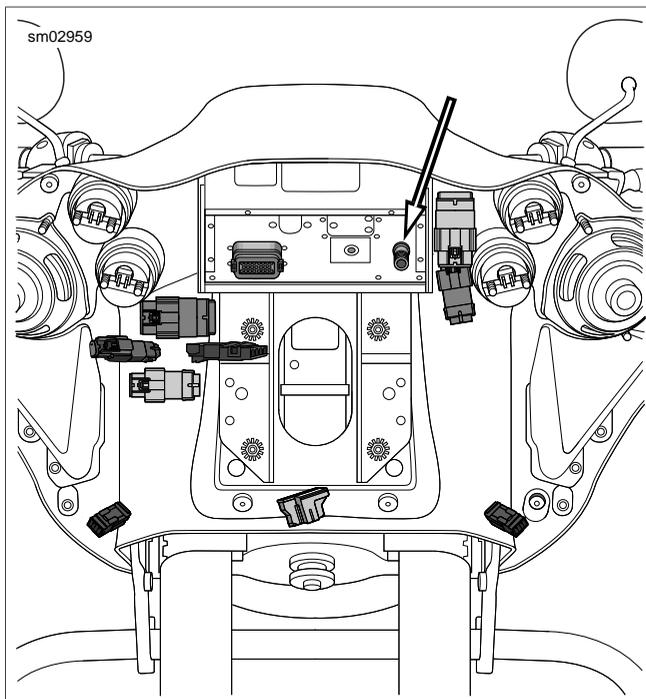

Figure 8-120. Radio Antenna Cable Connector (FLTR)
5. Remove radio antenna cable connector [51] at back of radio (left side). See Figure 8-120. Carefully cut cable where it exits main harness conduit.
1. Connect radio antenna cable connector [51] at back of radio (left side). See Figure 8-120.